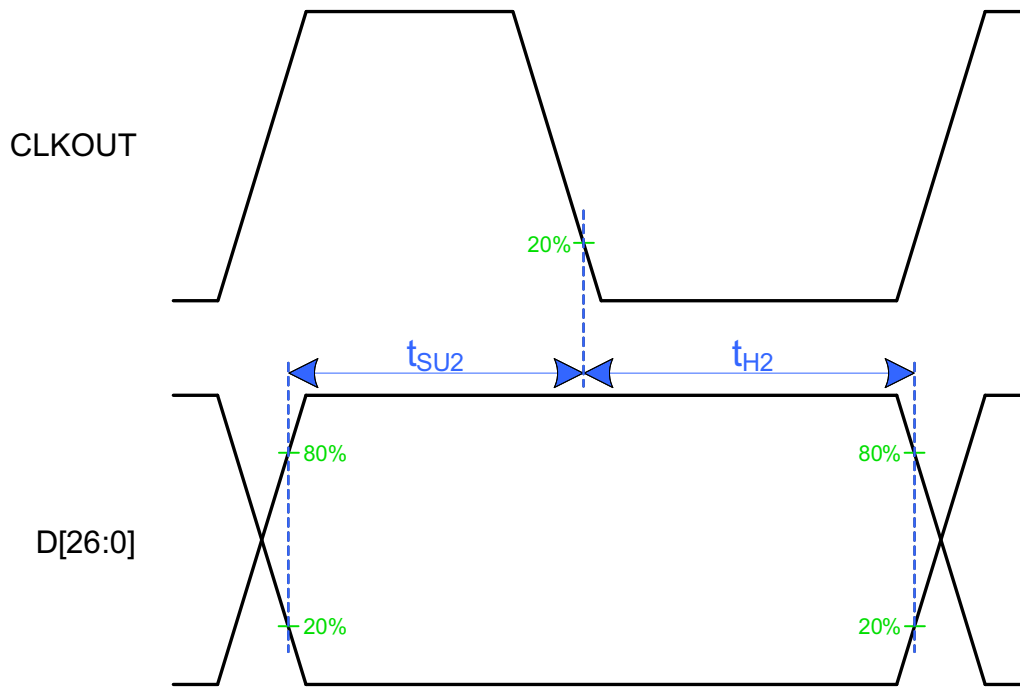
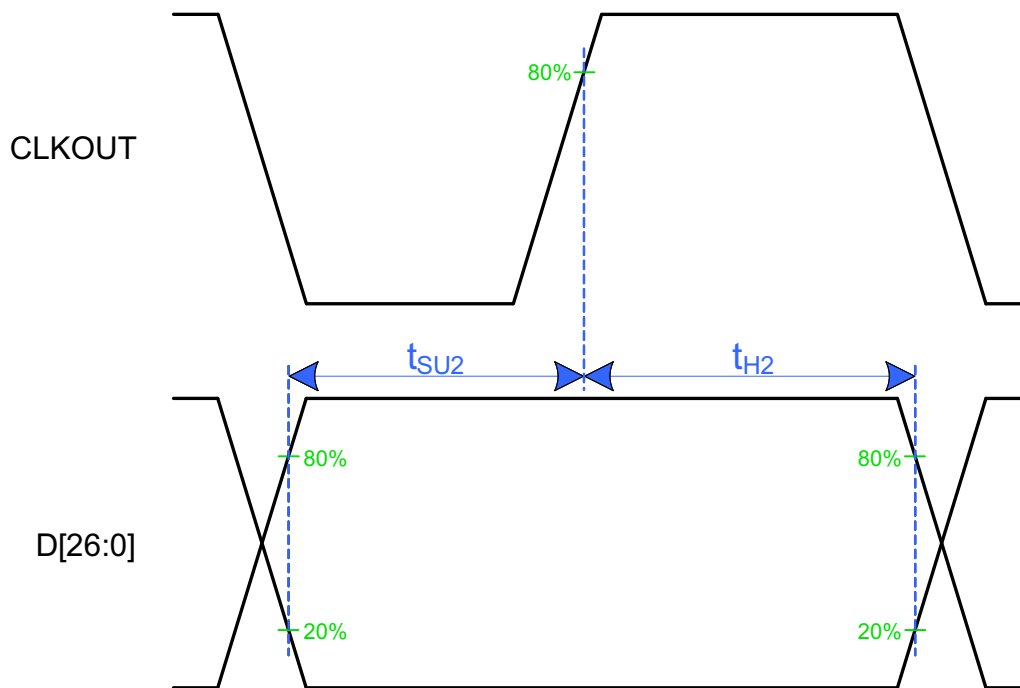

Figure 3. CMOS Output Timing (CLKPOL = Low)
Figure 4. CMOS Output Timing (CLKPOL = High)
- (1) The PLL bandwidth describes the typical highest modulation frequency that can be tracked. If the LVDS transmitter device generates a spread spectrum, the LVDS clock and data must stay synchronized throughout modulation. The SN65LVDS822 will track and pass through modulation, and the downstream CMOS receiver must be able to track it.
- (2) Receiver Input Skew Margin (t_{RSKM}) is the timing margin available for transmitter output pulse position (t_{PPOS}), interconnect skew, and interconnect inter-symbol interference. t_{RSKM} represents the remainder of the serial bit time not taken up by the receiver strobe uncertainty. The t_{RSKM} assumes a bit error rate better than 10^{-12} .
- (3) t_{RSKM} is indirectly proportional to: internal setup and hold time uncertainty, ISI, duty cycle distortion from the front end receiver, skew mismatch between LVDS clock and data, and PLL cycle-to-cycle jitter.
- (4) LVDS input timing defined here is based on a simulated statistical analysis across process, voltage, and temperature ranges.
- (5) See Figure 3 and Figure 4.